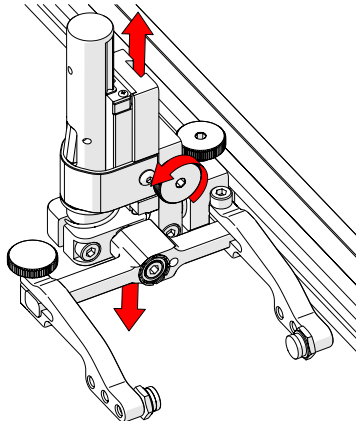

Fig. 127 - Vertical adjustment
2. The vertical adjustment knob allows the vertical probe holder height adjustment (Fig. 127).